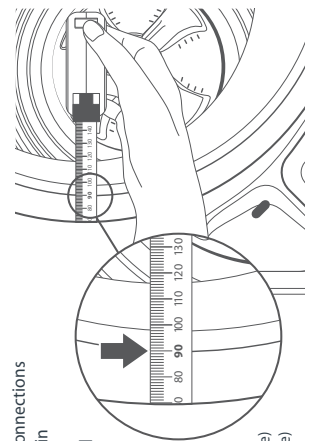

Fig.7 Measure at the left side of the machine
- 7 Repeat process for the left side of the machine (Fig.7). Ensure you measure the correct distance for the size of machine you have.